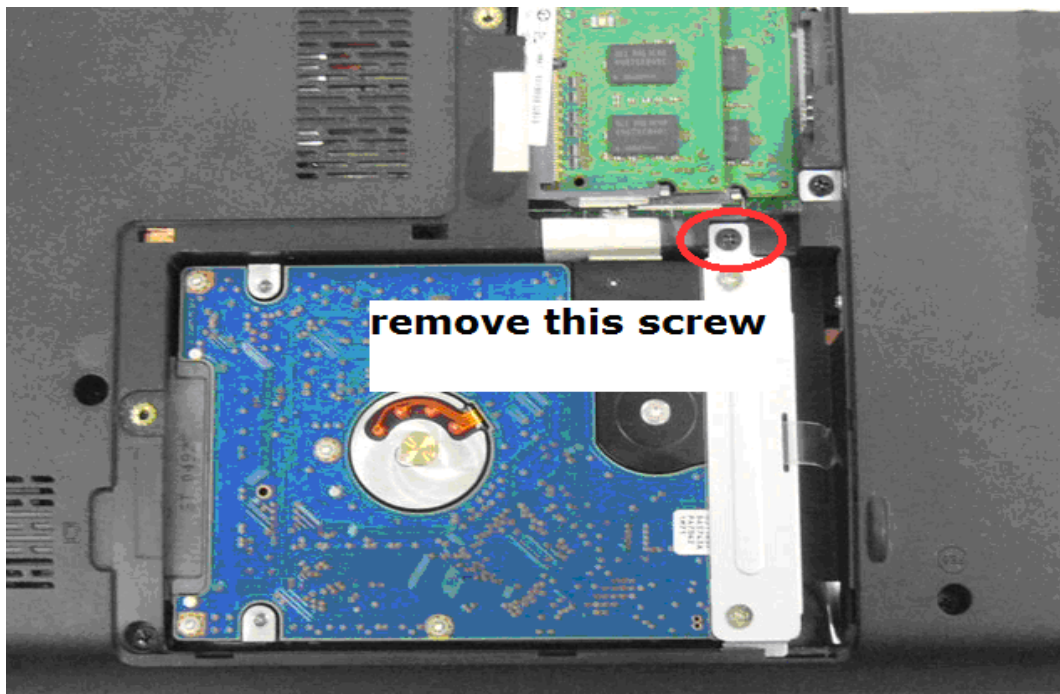

Figure 4-4-3 Remove one screw which is used to fix HDD
5. Remove SCREW M2.5*3.0F 1PCS which is used to fix HDD (Figure 4-4-3)